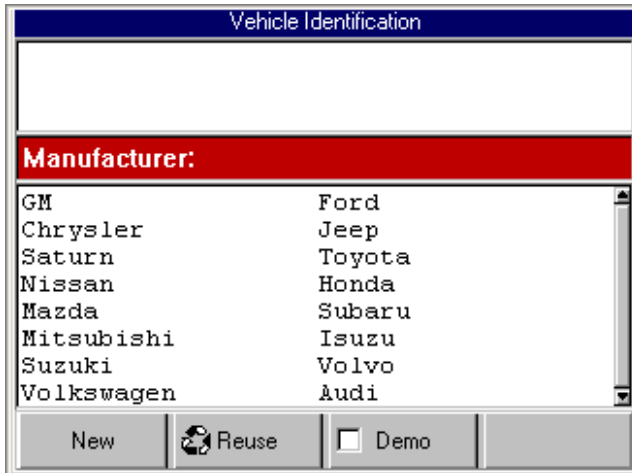

Figure 2.3: Vehicle Information - Manufacturer Screen
- 3 Select **ABS / Air Bag 2004** and press the **ENTER** key. This displays the first Vehicle Information screen (Figure 2.3 on page 14).